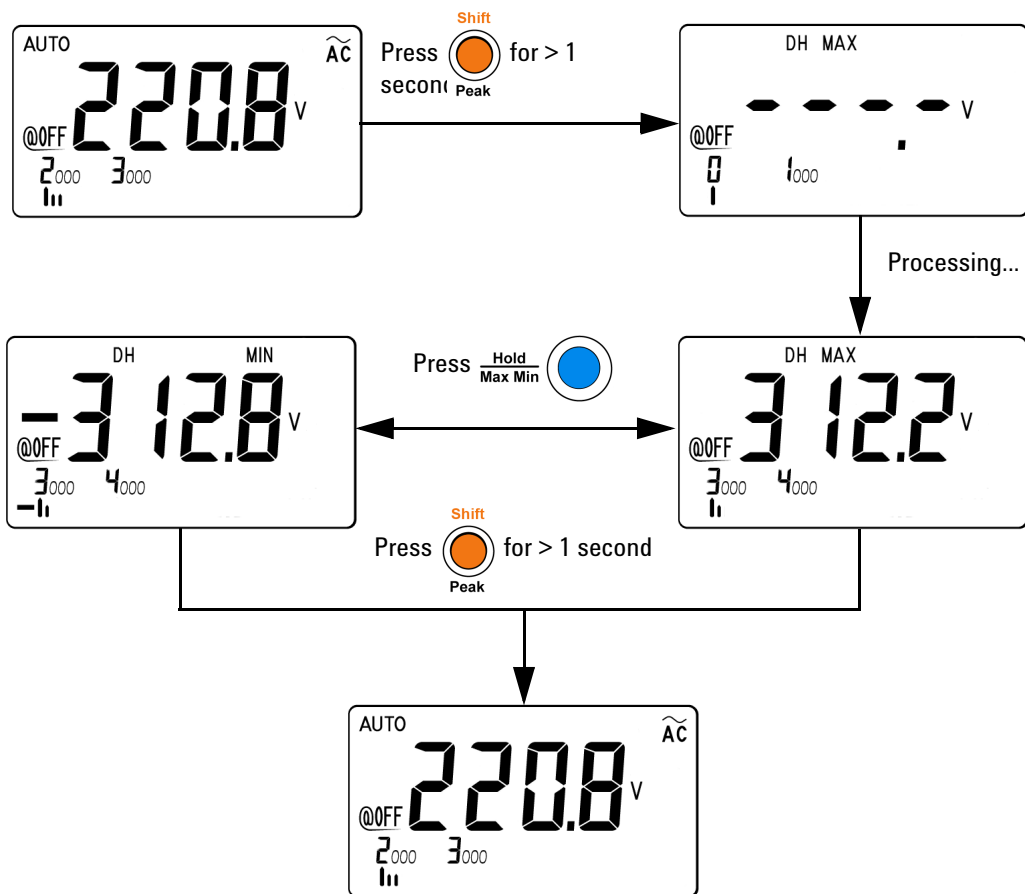

Figure 3-4 1 ms peak hold mode operation
- 4 In the measurement example shown in Figure 3-4 on page 42, the crest factor will be  $312.2/220.8 = 1.414$ .